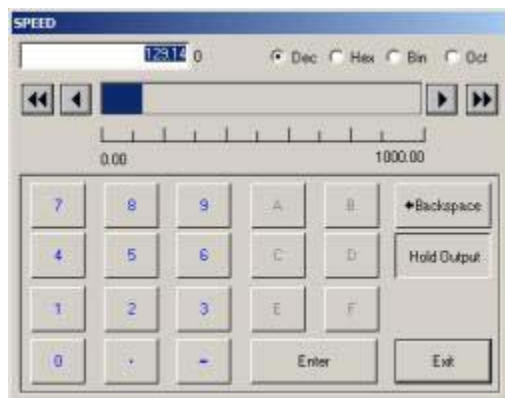

Figure 1.21 - Change dialog Box for **ANALOG** tag
- a. Select an Analog Tagname from the Point Info Dialog Box the pick the **Change button** (Figure 1.21).